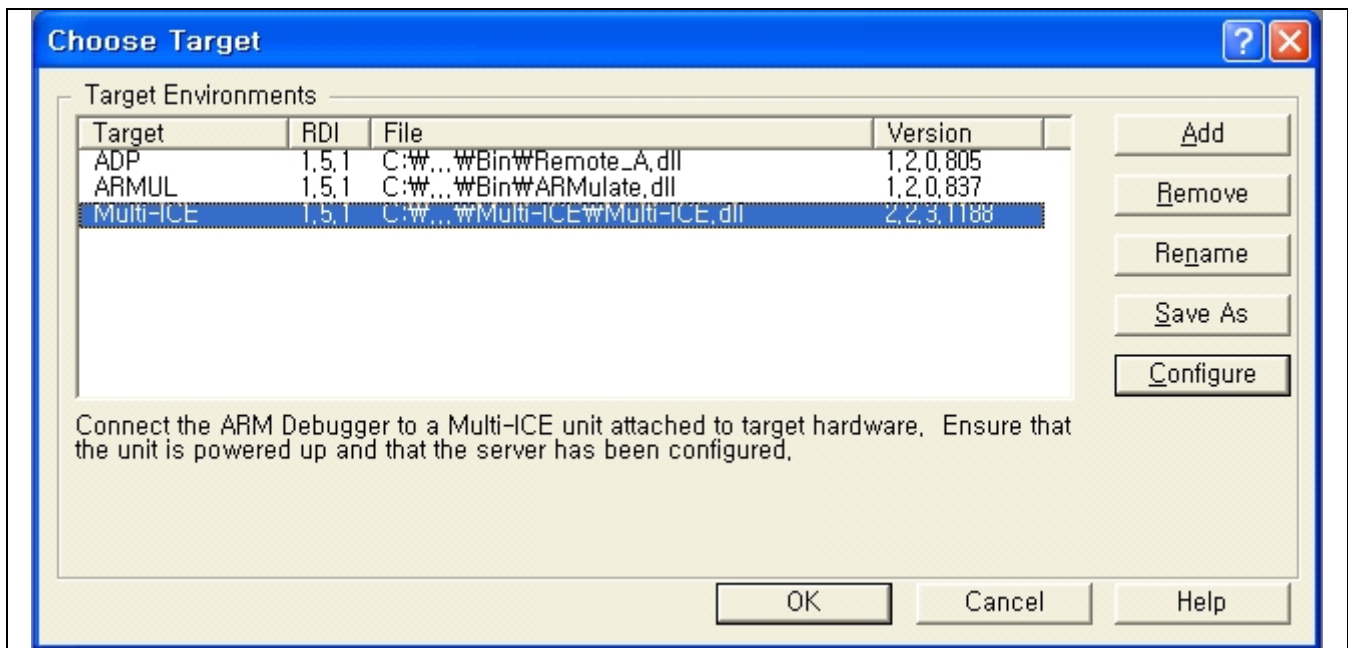

Figure 2-10. Debugger Configuration: Target Page
2. Debugger Configuration dialog box is displayed (See Figure 2-10).